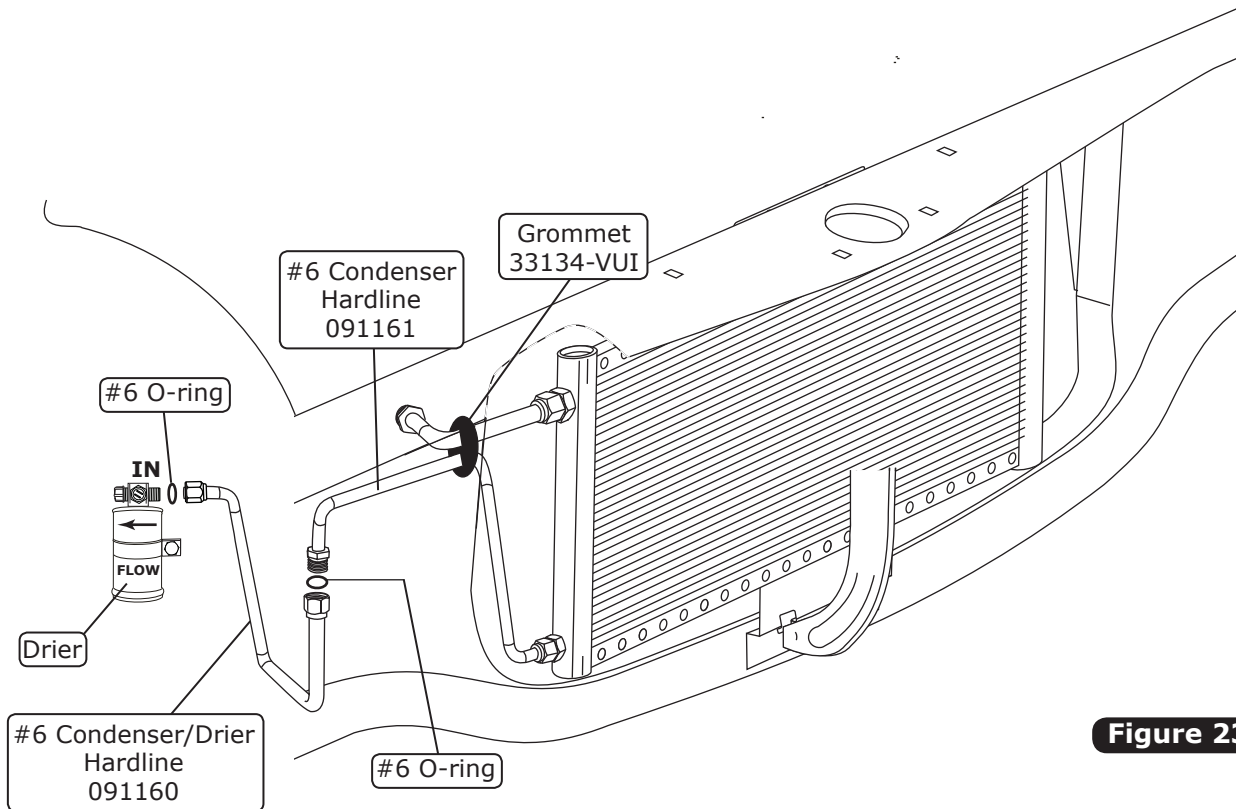

Figure 23
1. Lubricate (2) #6 O-rings (See Figure 21, Page 21), and install the #6 condenser/drier hardline as shown in Figure 23, below.